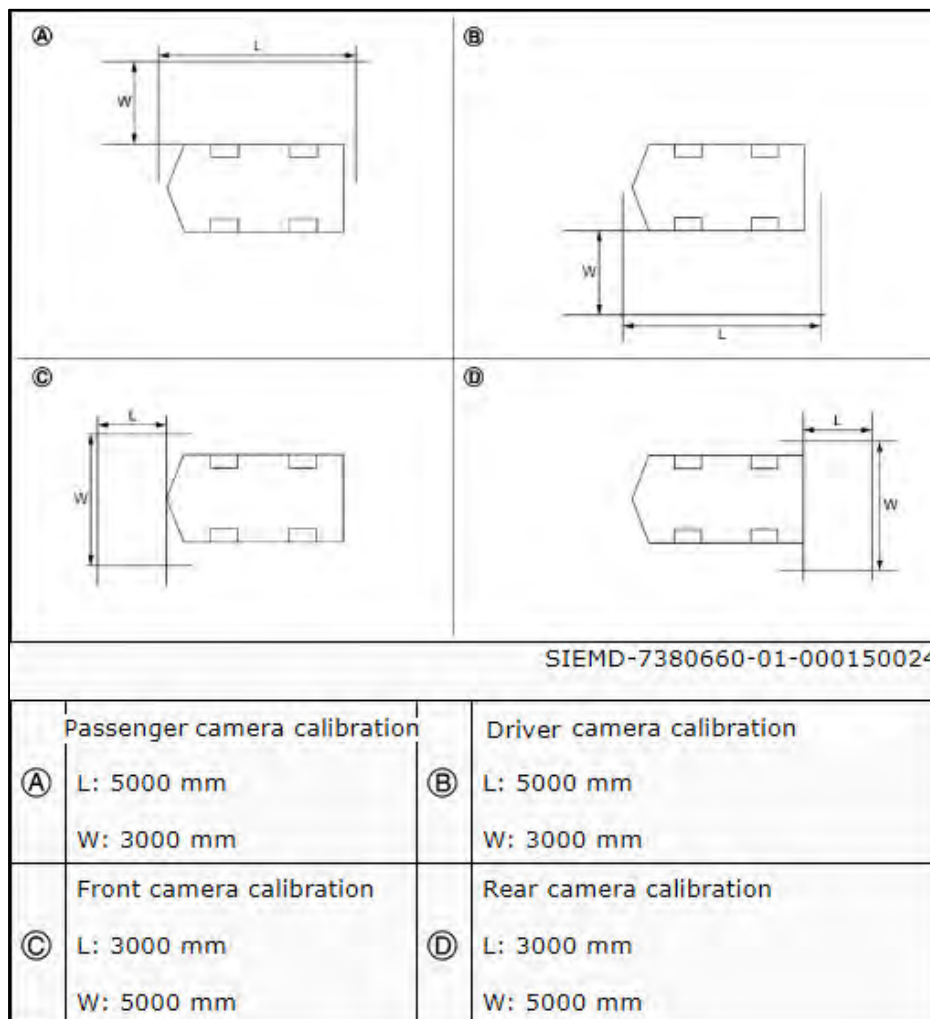

Figure 9
- HINT:** The shop floor area requirements are shown in Figure 9 (only one camera will be calibrated at a time so the vehicle can be repositioned for each camera as needed).